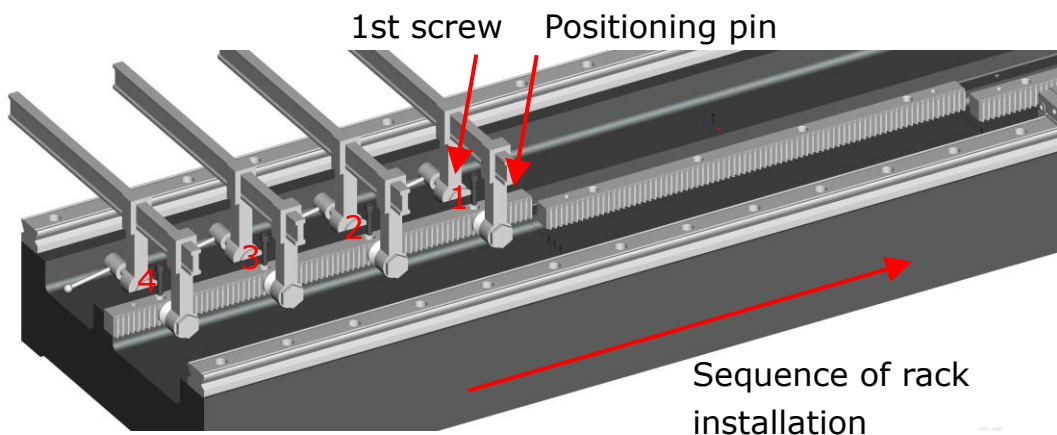

Fig. 27
16.9 Insert the hexagon socket countersunk head screws of class 12.9 to the mounting holes and fasten the screws with the rated torque as given in the Table 4. To begin with the first screw close to the positioning pin and in the sequence as shown in Fig. 27.